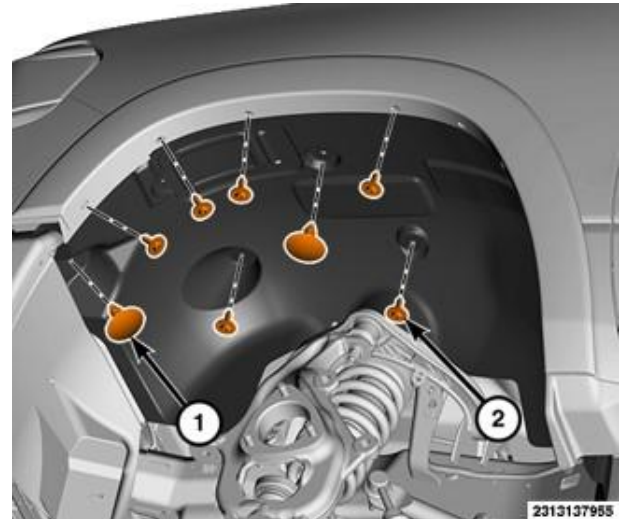

Figure C1 – Wheelhouse Splash Shield
3. Remove the screws and push pin fasteners and position aside the wheelhouse splash shields (Figure C1).